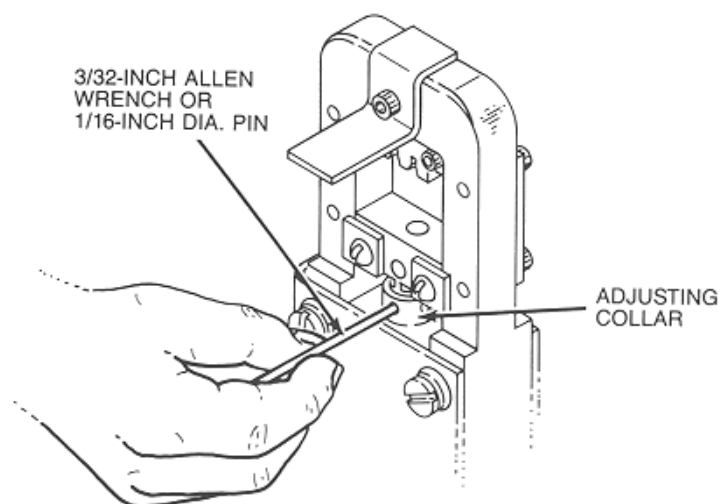

Figure 14
- Insert the turned-down end of the 3/32-inch Allen wrench or a pin, approximately 1/16-inch in diameter, into one of the holes in the adjusting collar (see Figure 14). Then rotate the collar about 5 degrees counterclockwise to increase crimp height or clockwise to decrease crimp height.